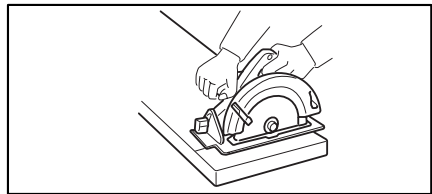

Fig. 1
16. **Place the wider portion of the saw base on that part of the workpiece which is solidly supported, not on the section that will fall off when the cut is made. As examples, Fig. 1 illustrates the RIGHT way to cut off the end of a board, and Fig. 2 illustrates the WRONG way. If the workpiece is short or small, clamp it down. DO NOT TRY TO HOLD SHORT PIECES BY HAND!**